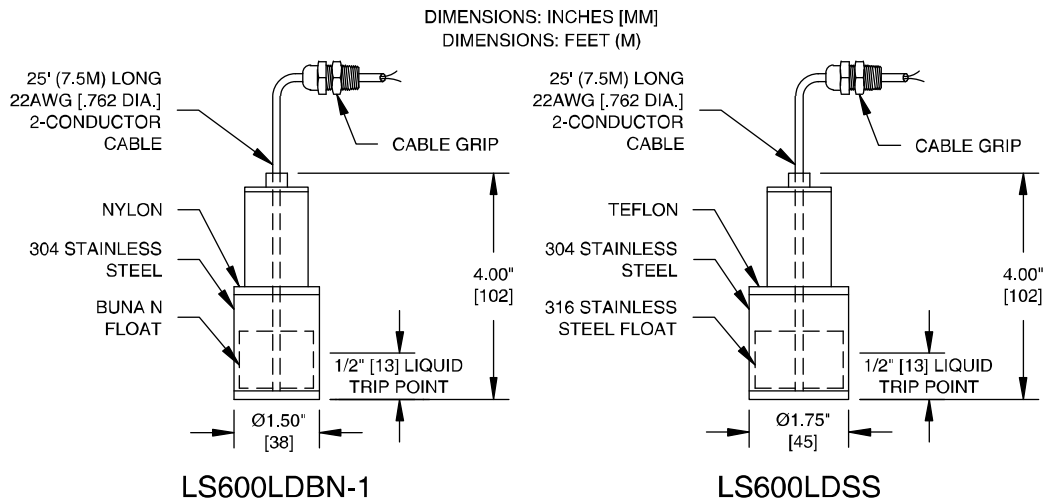

Figure 1-5 – LS600 LD Series
The LC1000-A can be integrated with a variety of liquid sensors used for monitoring in-tank levels and secondary containment areas around tanks and pipes. The maximum is 4 sensors depending on the overall job configuration; check the specific job design drawings for the actual number and type specified. Figures 1-5 through 1-8 show four (4) sensor types provided by Pneumercator with their most typical applications. Other non-Pneumercator models may be used; however, their use with the LC1000-A should have been approved by Pneumercator and local regulators before attempting to wire them into the system.
Check the specific design drawings for the job, or use the LS600LD Series as illustrated in Figure 1-5. Install sensor per Figure 2-3 as follows: